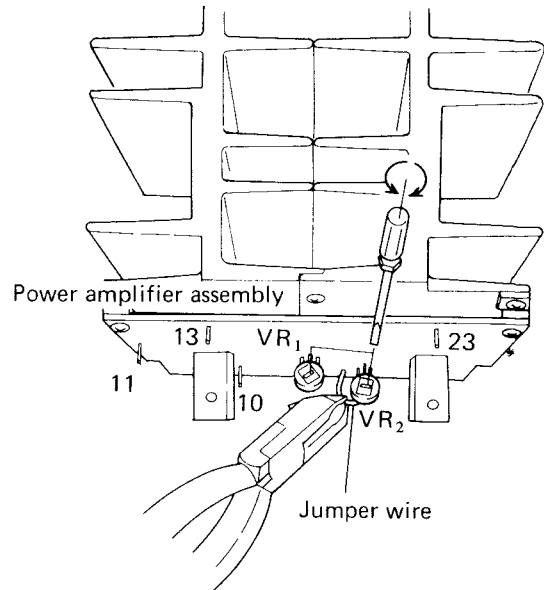

Fig. 14 Power amplifier adjustment
1. Connect a DC voltmeter between power amplifier assembly (AWH-073) L ch terminal 10 and ground as shown in Fig. 14.
3. When 0V cannot be obtained by performing the adjustment of item 2 above, cut the jumper wire shown in Fig. 14 and adjust to $0V \pm 30mV$ with VR_2 .
4. The R ch also uses the power amplifier assembly (AWH-073). Check and adjust this channel in accordance with items 1 - 3 above.
2. Set the power switch to "ON", wait 10 minutes, and then check if the DC voltmeter reads 30mV. If it doesn't read 30mA, adjust to 30mV by turning VR_1 (Fig. 14).
3. The R ch also uses the power amplifier assembly (AWH-073). Check and adjust this channel in accordance with items 1 - 2 above.